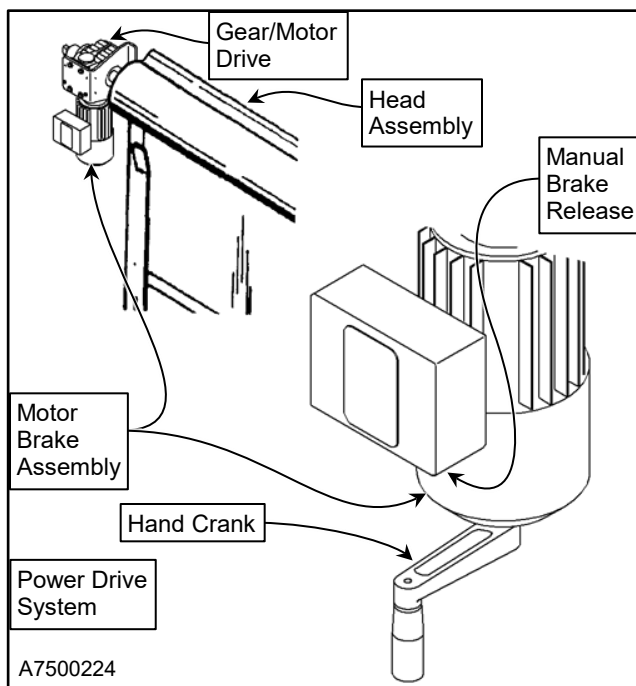
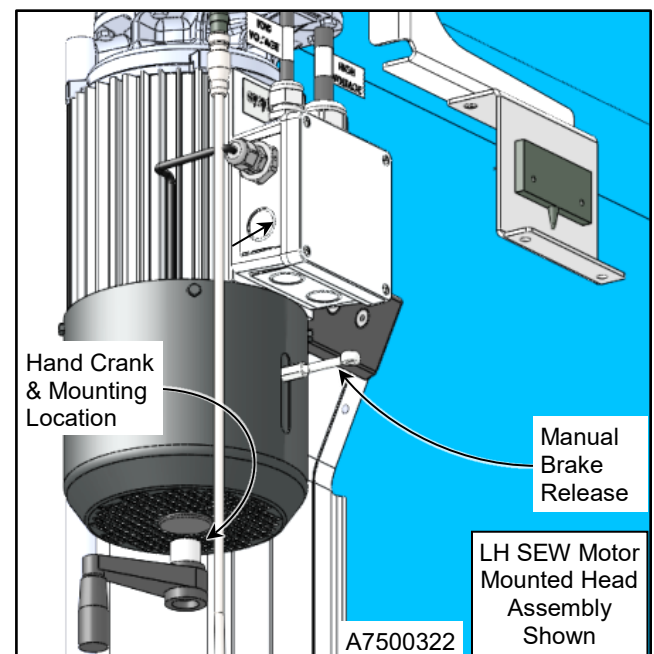

Figure 8
Figure 9
The PredaDoor® NXT® power drive system consists of an electric motor/brake assembly, reduction gear assembly, and encoder. The standard PredaDoor® NXT® is equipped with a variable-speed motor. The control system will vary the door speed depending on door position. The power drive system can be mounted on either the right or left end of the fabric roll. (See Figure 8)
The power drive incorporates an electric brake used as a parking brake to prevent door movement when electrical power to the door is shut off. A manual brake release is provided for manual opening or closing of the door should there be a power failure, or when routine maintenance needs to be performed with the power disconnected. (See Figure 8)
2. Partially pull down and hold the manual brake release to disengage the brake. Allow the door to close smoothly to the desired height. (See Figure 9)
3. Release the manual brake release to engage the brake and lock the door in place. (See Figure 9)
2. Place the crank handle on the shaft at the bottom of the motor. (See Figure 8)
3. Pull down and hold the manual brake release to disengage the brake. (See Figure 8 & Figure 9)